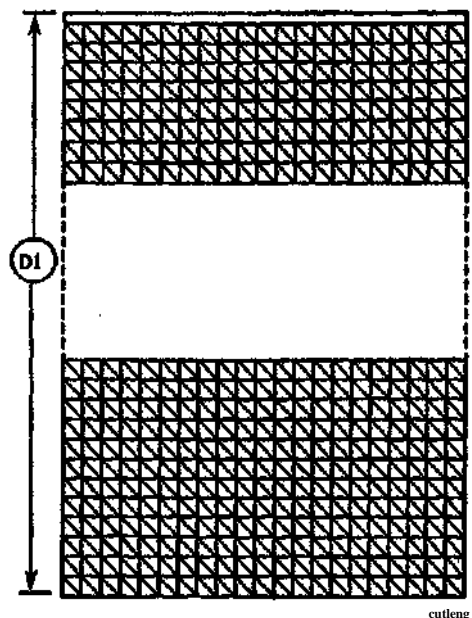

Figure 1. Checking the Print Length
4. (Figure 1): Measure the two prints in the paper feed direction.